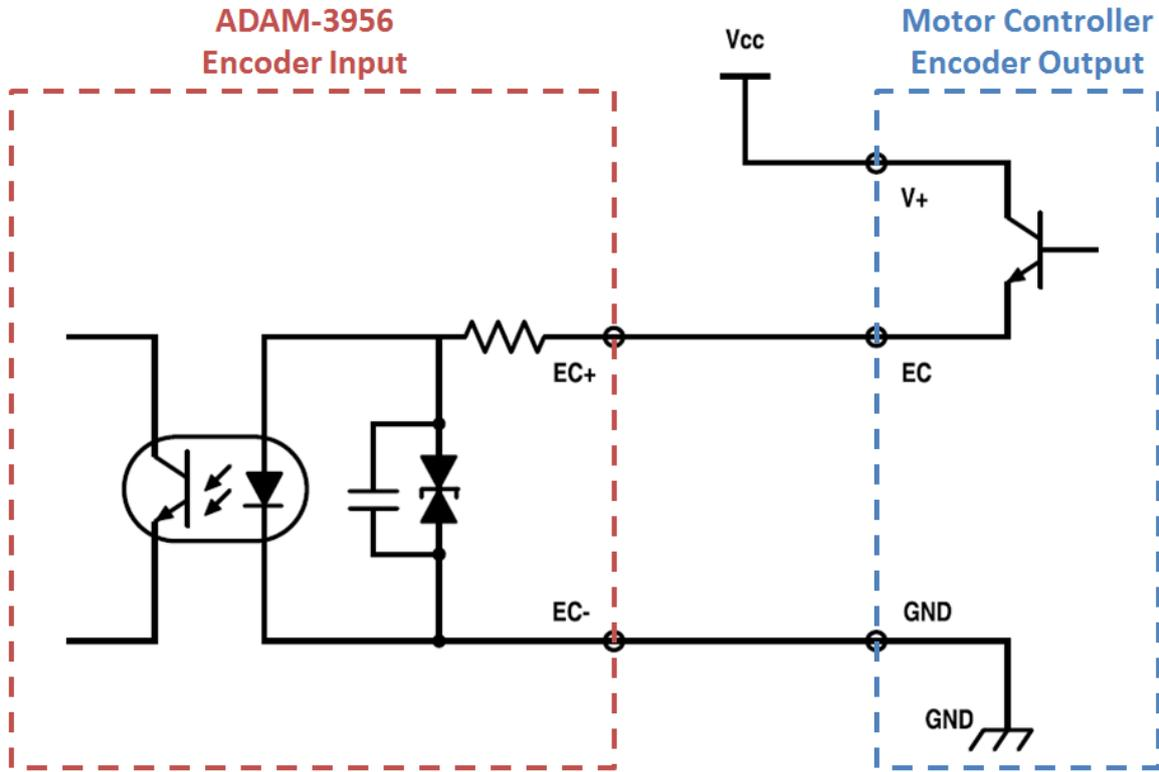

Figure 2. The diagram of encoder wiring connection for one channel (encoder A or B or Z)
2. Motor controller needs input voltage from outside (Common Anode, CA). The Figure 2 shows circuit for one channel. (EC: Encoder Signal; EC+/-: ECA+/-, ECB+/-, ECB+/-)